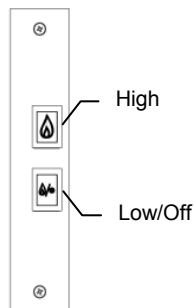
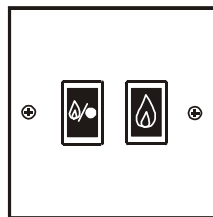

Figure 7 - Trim Switch
Figure 8 - Wall Switch
1. Ensure the main burner is off by pressing the button on the trim marked  ('small flame/dot') until clicking is heard on the valve (see **Figure 7/Figure 8**).
6. Press and hold the  ('large flame') button (in **Figure 7/Figure 8**) until clicking is heard (fully open).